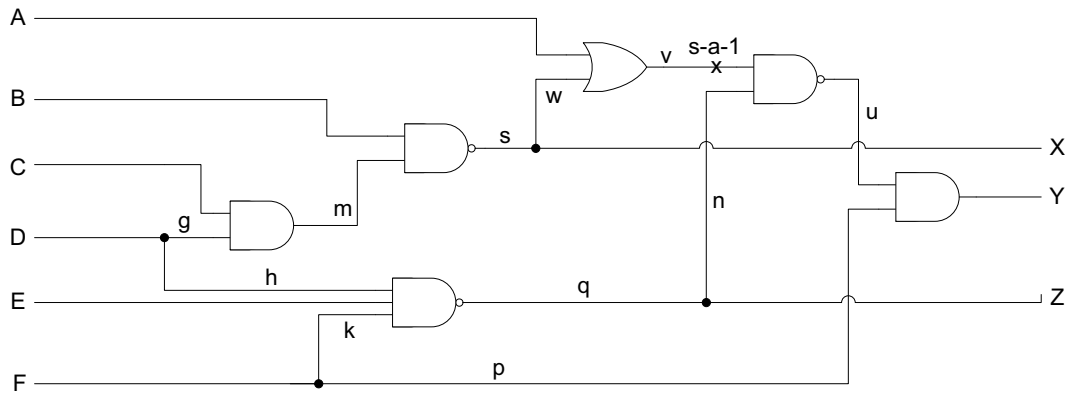

Figure 4: Circuit for Test Generation
6. A PODEM like test generator is used to generate a test for the fault line v s-a-1 in the circuit shown in Figure 4.